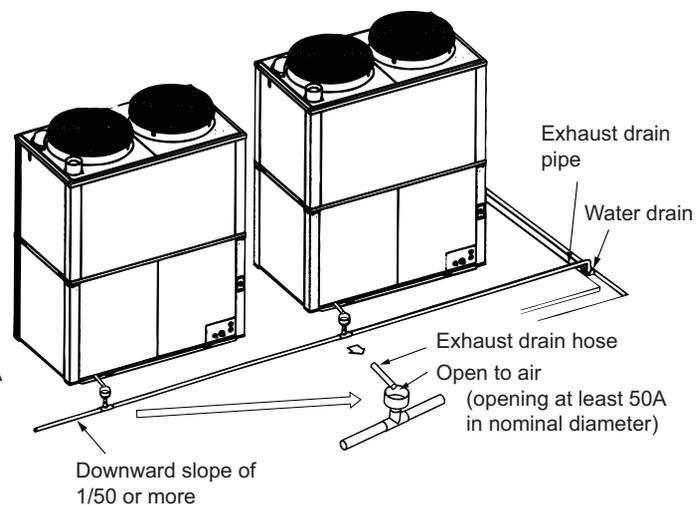

Fig. 12 Draining the exhaust into a water drain (roof)
- If installing the outdoor unit on a roof, extend the exhaust drain pipe to the water drain (as shown in Fig. 12).